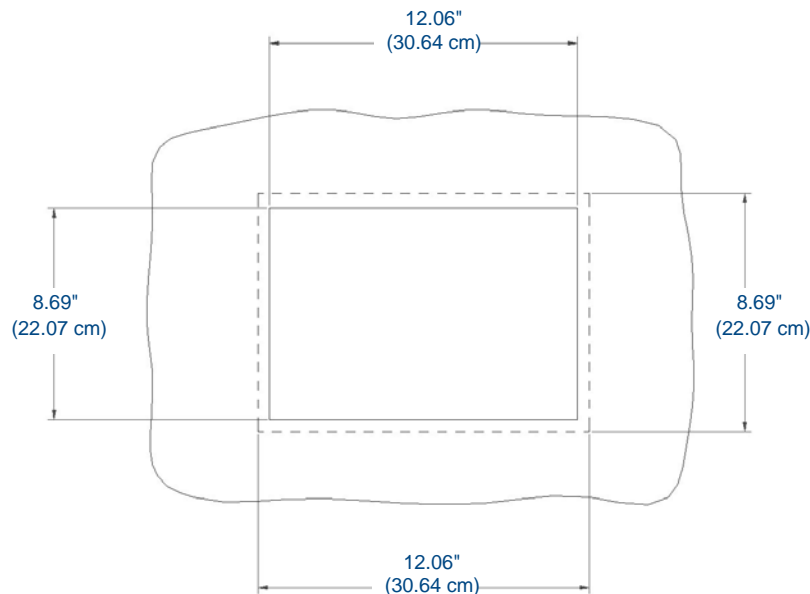

FIG. 15 Recommended cutout for the MVP-WDS-9 plastic back box
1. Cut a hole into the wall or surface intended to hold the back box. The back box is sized 12 1/16 inches (30.64 cm) long and 8 11/16 inches (22.07 cm) high, so the hole should be at least 1/4" (6.4mm) smaller in each dimension (FIG. 15). Use the included MVP-WDS-9 Wall Docking Station template (68-5967-01) as an aid for hole placement and measurement.